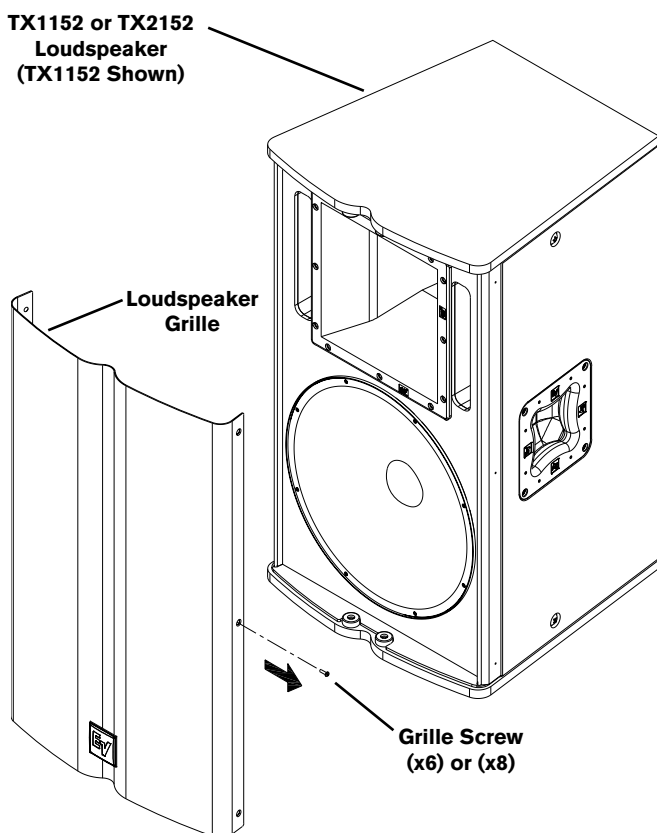

Figure 8:
1. Remove the (6 or 8) screws that attach the grille to the enclosure (Figure 8).
5. Reattach the grille using the (6 or 8) screws (reverse of Figure 8).
1. Remove the six (6) or eight (8) screws that attach the grille to the enclosure (Figure 8).
5. Reattach the grille using the six (6) or eight (8) screws (reverse of Figure 8).